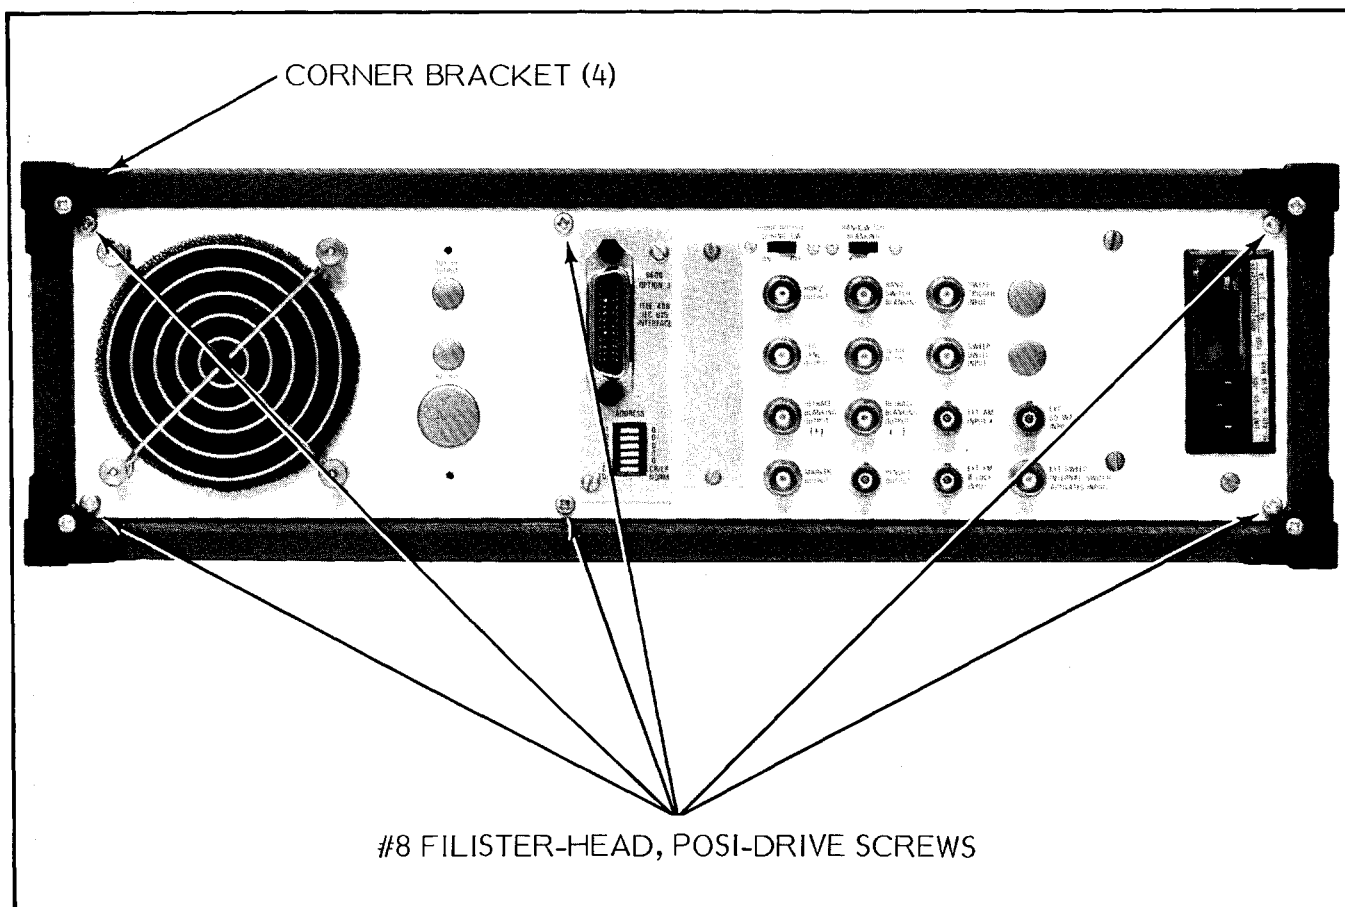

Figure 7-1. 6600A Series Programmable Sweep Generator, Rear Panel
- (a) Remove the four corner brackets from the rear panel (Figure 7-1).
- (a) Remove the 4 corner-brackets from the rear panel of the sweep generator, Figure 7-1.
- (a) Remove the two top, corner brackets from the rear panel of the sweep generator (Figure 7-1).